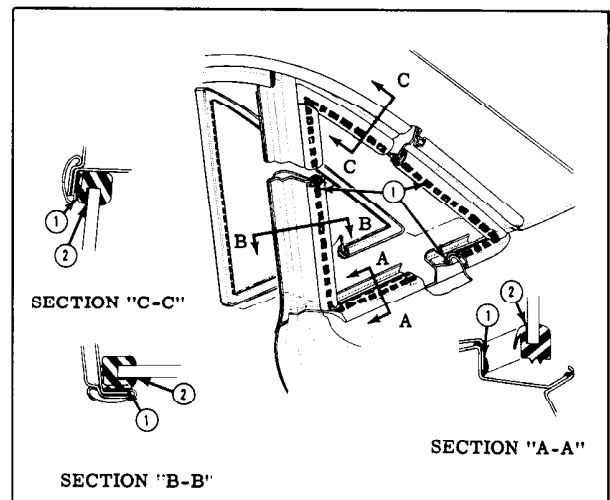

Fig. 15-42 Rear Quarter Window Sealing
- To install rear quarter window, first clean off all old sealer from rubber channel and body opening. Apply a bead of medium-bodied sealer on wall of window opening rubber completely around window opening to effect a seal between body and rubber channel. (See 1 in Fig. 15-42)
- Position glass and rubber channel assembly into window opening and install retainers loosely. Using a pressure type applicator, apply weatherstrip adhesive (black) between rubber channel and outside surface of glass. (See 2 in Fig. 15-42)